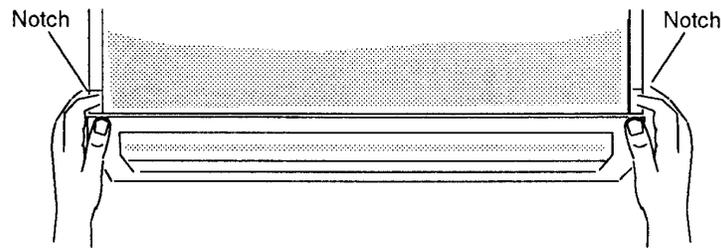

Figure 3-11 Raising the Top Cover
2. Raise the top cover by lifting it up at its front corners just behind the bezel as shown in Figure 3-11.